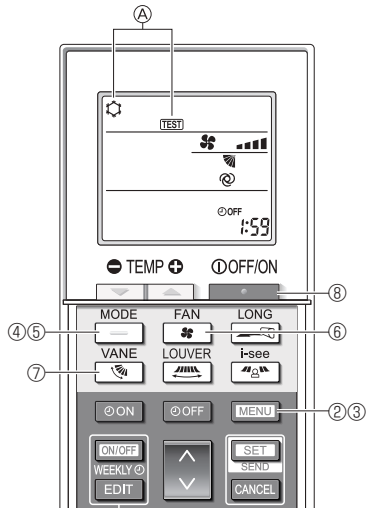

Fig. 7-8
- ① Turn on the power to the unit at least 12 hours before the test run.
- ② Press the **[MENU]** button for 5 seconds. (Fig. 7-8)
(A) [TEST] and the current operation mode are displayed. (Fig. 7-8)